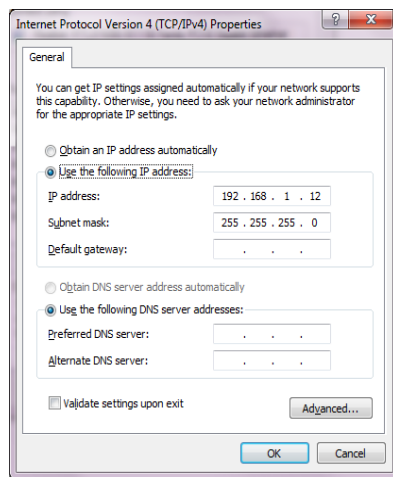

Figure 5: TCP/IPv4 Properties
5. Enter an appropriate IP address and subnet mask and click “OK” (see Figure 5).